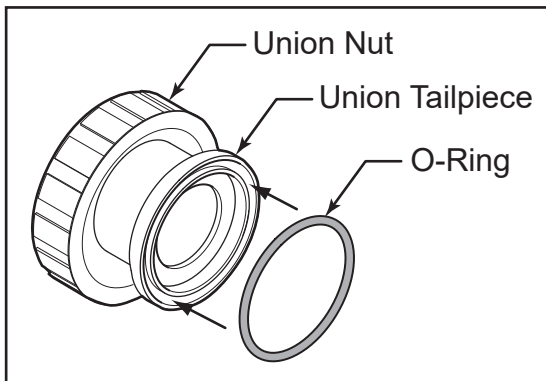

Figure 6. O-ring Placement
8. Place the o-rings on the face of the union tail pieces, where the face of the union will connect to the filter bulkheads, see Figure 6.